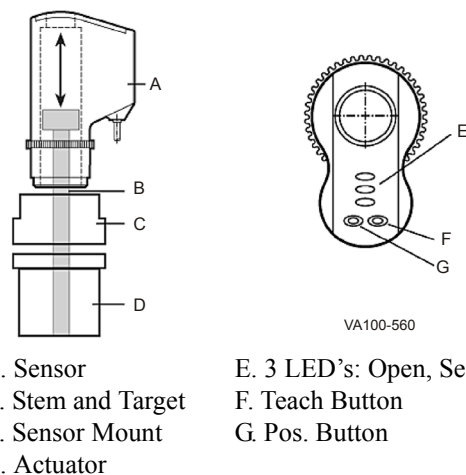

Figure 42: Set & Forget Switch
1. Referring to Figure 42, insert the Set & Forget switch over the indicator stem and target, into the sensor mount, aligning the switch to the desired location, typically with the LED's facing outward. Ensure a tight fit.